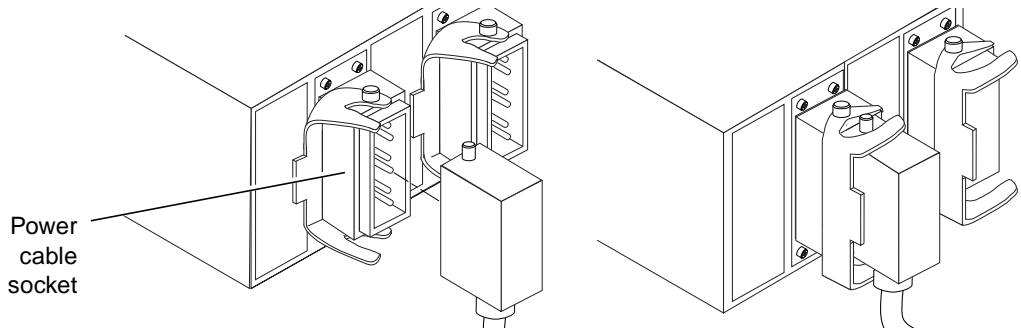

FIGURE 3-13 Connecting Power Cables to the RTU Assembly
7. **Connect the power cable to the RTS module and lock the connector with the lock lever (FIGURE 3-13).**